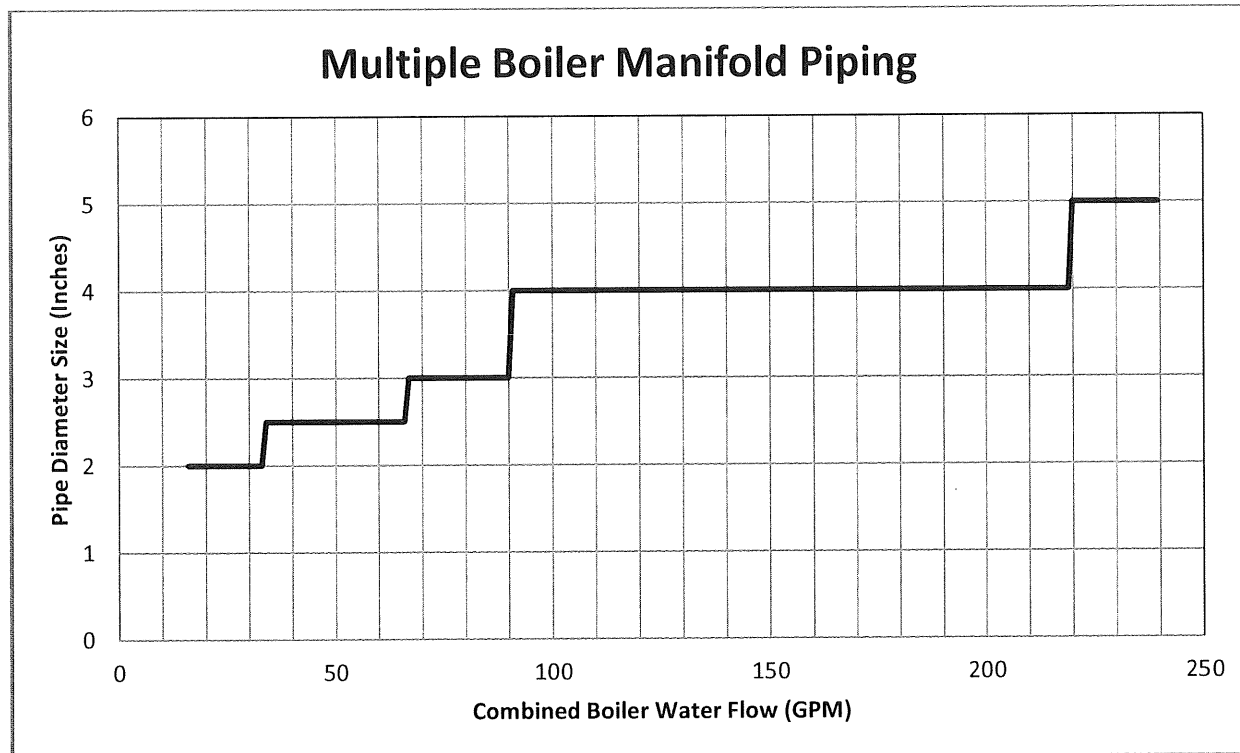

Figure 10
8. Reference Figure 10 to determine manifold pipe sizing.